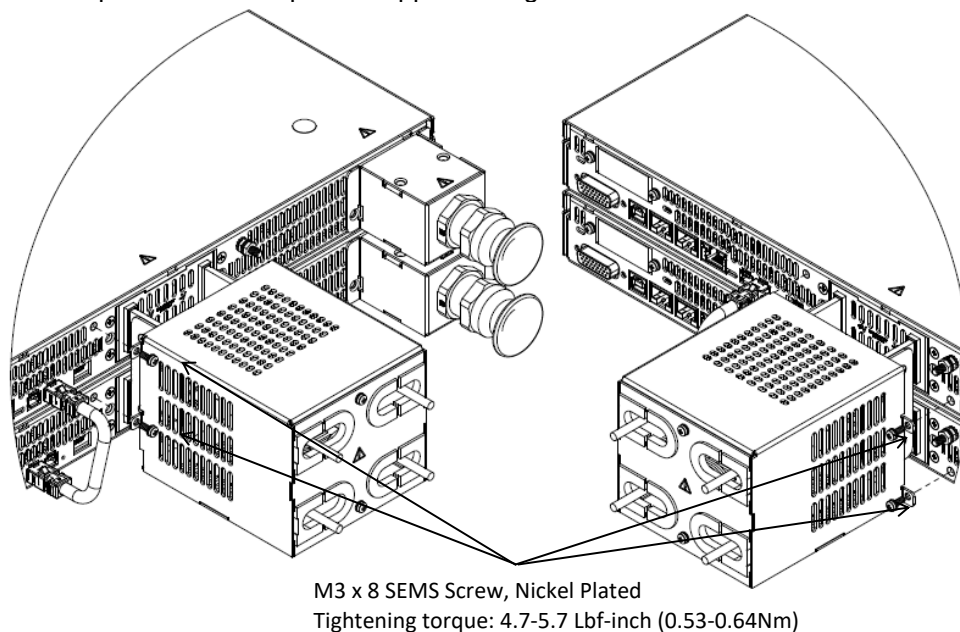

Figure 22: Two 60V-100V Units Output Cover Assembly
7. Fix output cover to the power supplies using four SEMS screw as illustrated in Figure 22.